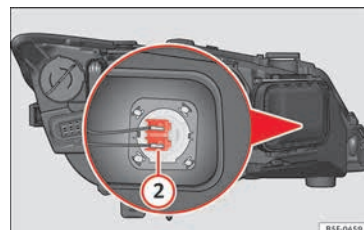

Fig. 109 Main beam headlight bulb.
- Slide connector » **Fig. 109** **②** to the left or right and pull.